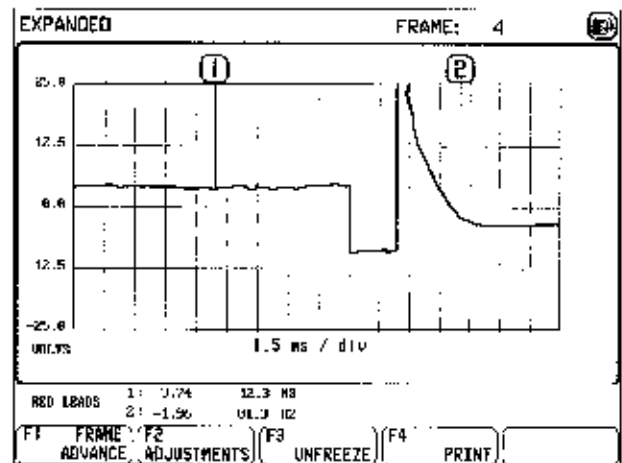

Figure 2-28
From the "Uniscope" screen, press [F3]. The message "Please Wait - Recording Waveforms" will appear. After the analyzer has recorded twenty (20) frames, an "expanded" screen will appear (see Figure 2-28). The analyzer will repeatedly display the recorded sequence one frame at a time.